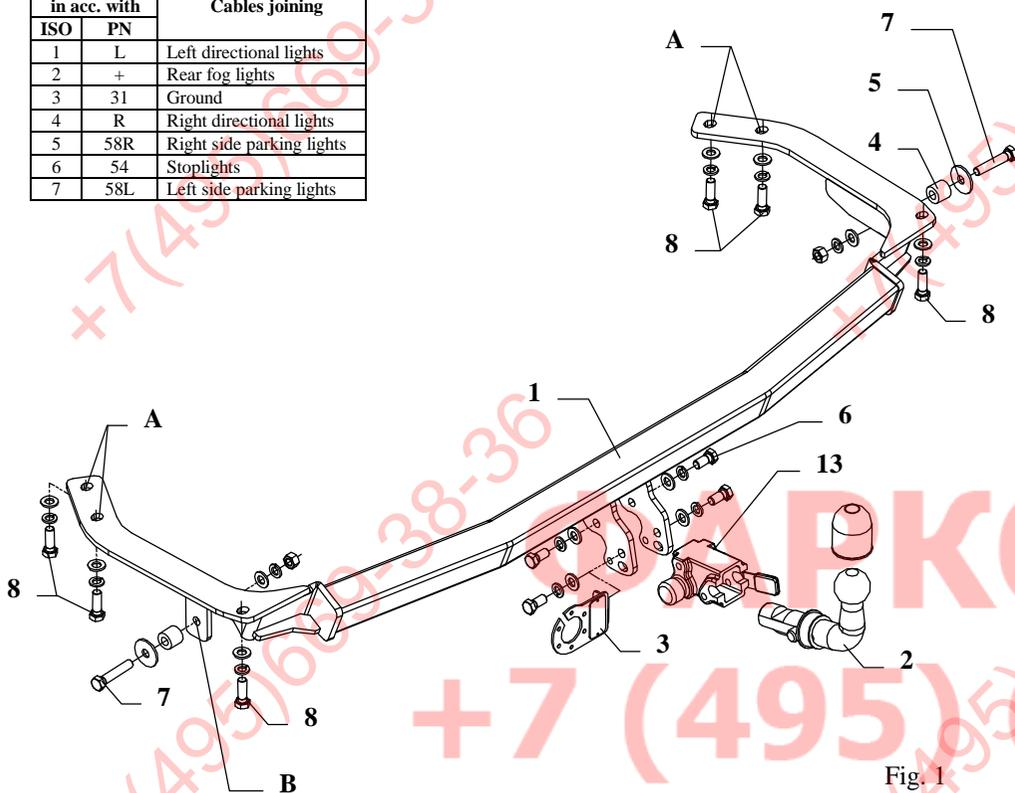

Fig. 1
3. Apply the main bar of the towbar (pos. 1) to the automobile frame, that way so holes of the towbar (pos. A) be covered with factory-made threaded holes. Fix using bolts M12x1,25x35mm (pos. 8).
4. Through holes (pos. B) fix with factory-made holes. Use distance sleeves  $\varnothing 25 \times \varnothing 13 \text{mm}$ , L=23mm (pos. 4), washers  $\varnothing 41 \times \varnothing 13 \times 3 \text{mm}$  (pos. 5) and bolts M12x60mm (pos. 7) as showed on the fig. 1.